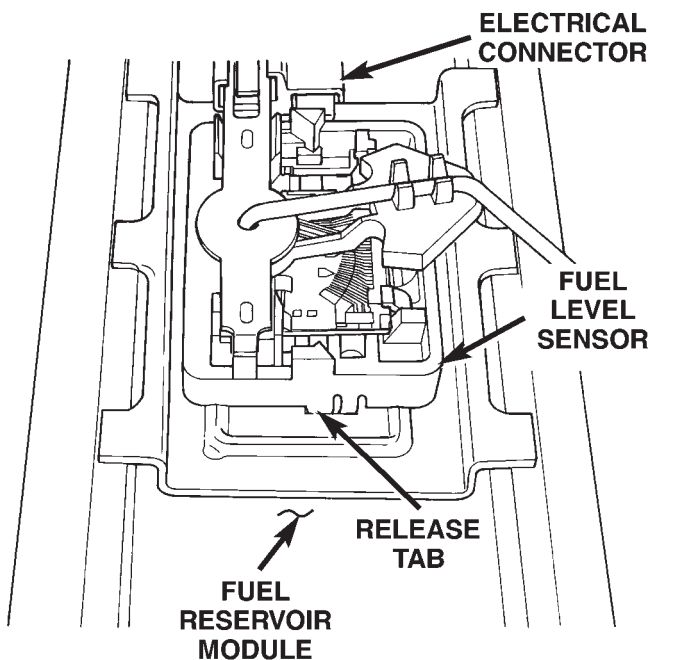

Fig. 33 Fuel Level Sensor Release Tab
- (1) Remove fuel tank. Refer to Fuel Tank Removal/Installation.
- (2) Remove fuel pump module. Refer to Fuel Pump Module Removal/Installation.
- (3) Remove electrical wire connector at sending unit terminals.
- (4) Press on release tab (Fig. 33) to remove sending unit from pump module.